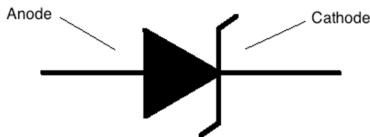

FIGURE 7. Zener diode symbol.
**2.10. Breakdown region and Zener diodes.** When the magnitude of the reverse bias voltage reaches the breakdown voltage for the device  $V_{ZK}$ , the reverse diode current climbs very steeply. This can be seen on the far left of Fig. 2. In normal operation, a signal diode is not subjected to voltages large enough to cause breakdown (ZK stands for “Zener knee”). However, there is a special class of diodes known as *Zener diodes* that are engineered to have a low and precisely specified reverse breakdown voltage. The symbol used for a Zener diode in a circuit diagram is shown in Fig. 7. The anode, cathode, and definitions for forward and reverse bias are identical; however, the device is normally operated with a reverse bias. Heavily-doped materials are used to create a very thin p-n junction layer.